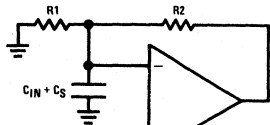

FIGURE 2
**Input Capacitance:** The input capacitance, CIN, of the LM146 is approximately 2 pF; any stray capacitance, CS, (due to external circuit circuit layout) will add to CIN. When resistive or active feedback is applied, an additional pole is added to the open loop frequency response of the device. For instance with resistive feedback (Figure 2), this pole occurs at 1/2π (R1||R2) (CIN + CS). Make sure that this pole occurs at least 2 octaves beyond the expected -3 dB frequency corner of the closed loop gain of the amplifier; if not, place a lead capacitor in the feedback such that the time constant of this capacitor and the resistance it parallels is equal to the R1(CS + CIN), where R1 is the input resistance of the circuit.